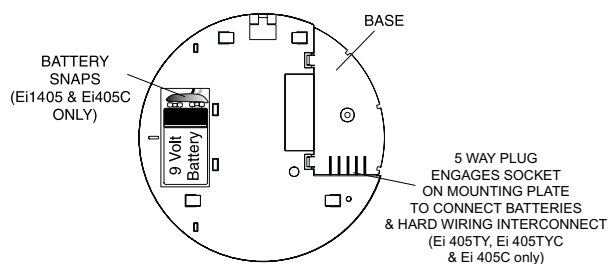

Figure 1b
- ¥ Models Ei405 & Ei405C - connect battery snaps firmly (see fig 1b). Press the test button and horn should sound.
5. Connect the battery to the battery snaps as shown in figure 1b (models Ei405 & Ei405C only).
- ✘ Check the battery snaps are firmly connected on the Ei405 & Ei405C models (see fig 1b).